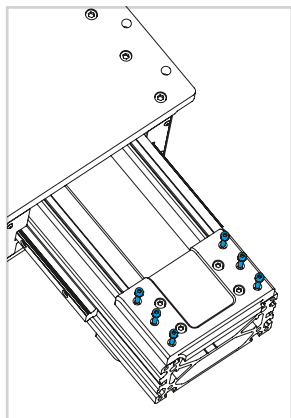
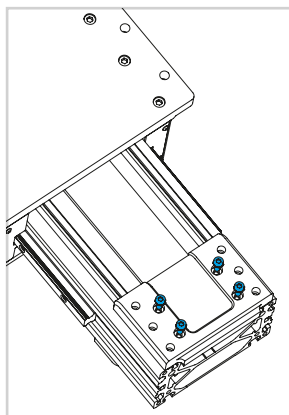
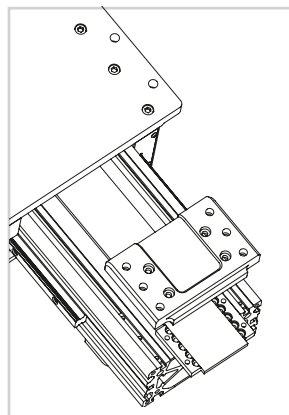

Fig. 10
Fig. 11
Fig. 12
- 6) Remove all the screws of the lower belt clamp plate and separate it from the actuator (see Fig. 10, Fig. 11 and Fig. 12).